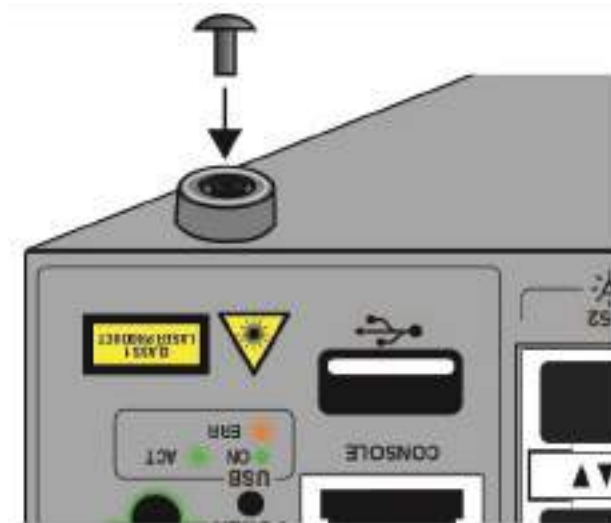

Figure 63. Inserting the Rivet into the Bumper Foot
4. Insert the rivet to secure the bumper foot to the base. Refer to Figure 63.